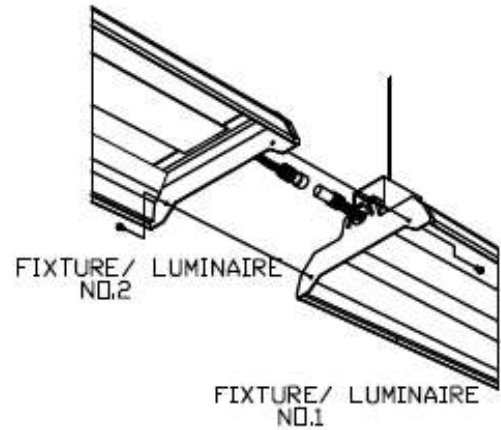

FIGURE 2
SMALL HOLES AS SHOWN IN FIG 2.
2. Remove support screws to optical chamber and mounting brackets to gain into electronic compartment behind channel cover. SEE FIGURE 2